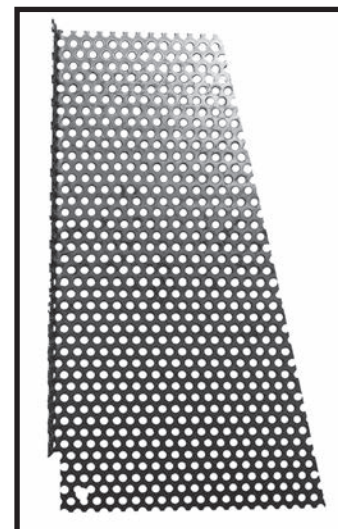
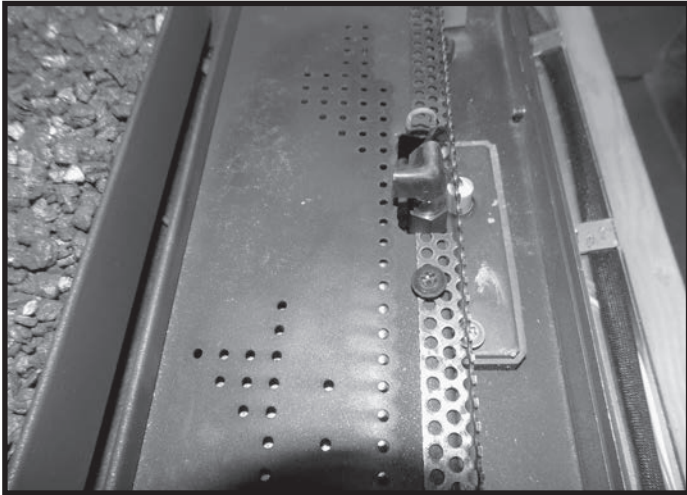
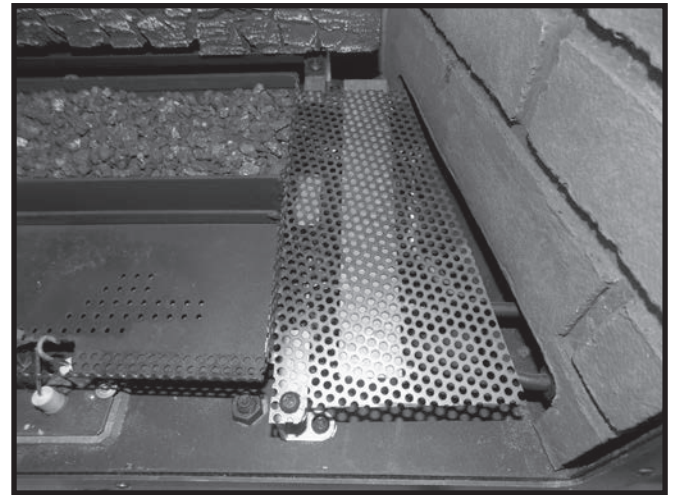

Figure 70: Side mesh guard.
Figure 71: Front mesh guard in place.
Figure 72: Side mesh guard in place.
5. Place the side mesh guard (Figure 70) on the right of the burners and secure with supplied screws (Figure 71).
6. Once the front and side mesh guards are in place (Figure 71 and Figure 72), the log base pieces can be installed.